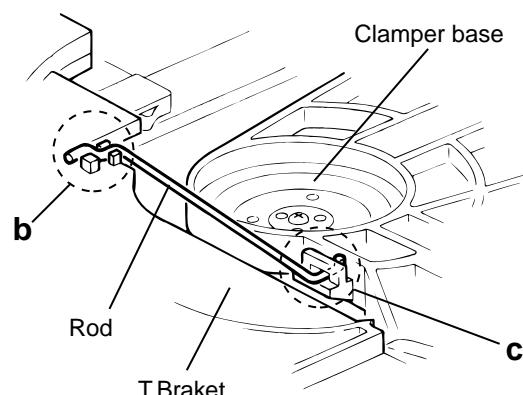

Fig.2
■ Removing the CD tray assembly (See Fig.2~4)
4. From the T.bracket section "b" and clamper base section "c", remove both of the edges fixing the rod(See Fig.2 and 3).